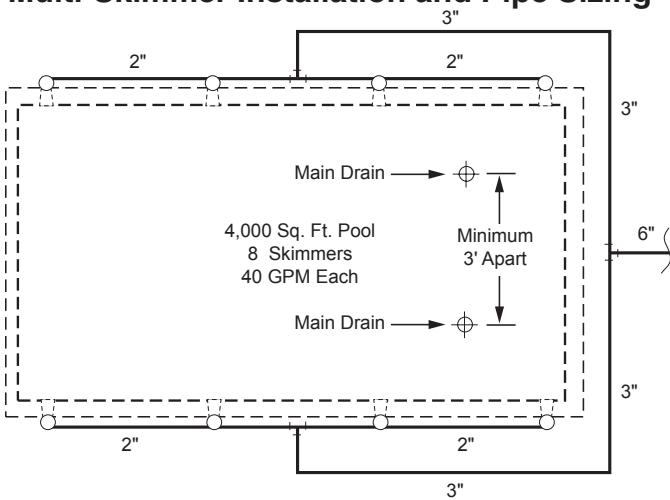

Figure 4: Multi-Skimmer Installation with pipe sizing. Note multiple main drains.
3. See Figure 4 for piping layout and for suction pipe sizing layout see Table 1 (page 4).